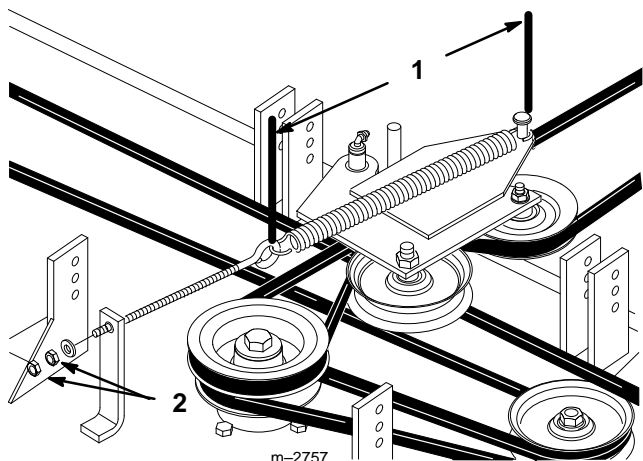

Figure 26
5. Tighten the jam nuts on the eyebolt until the spring is stretched to a length of 16-1/2" (41.9 cm) (Fig 26).